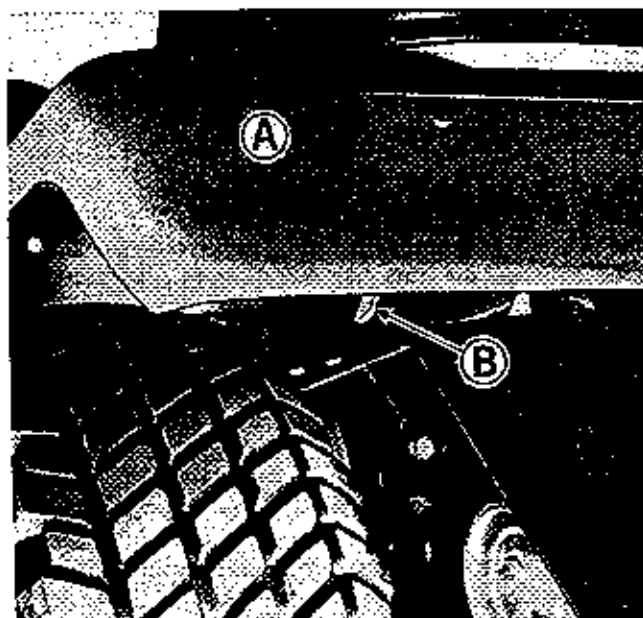
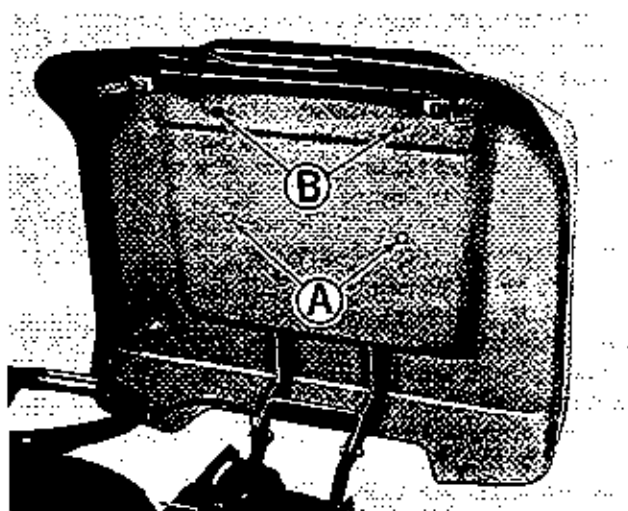
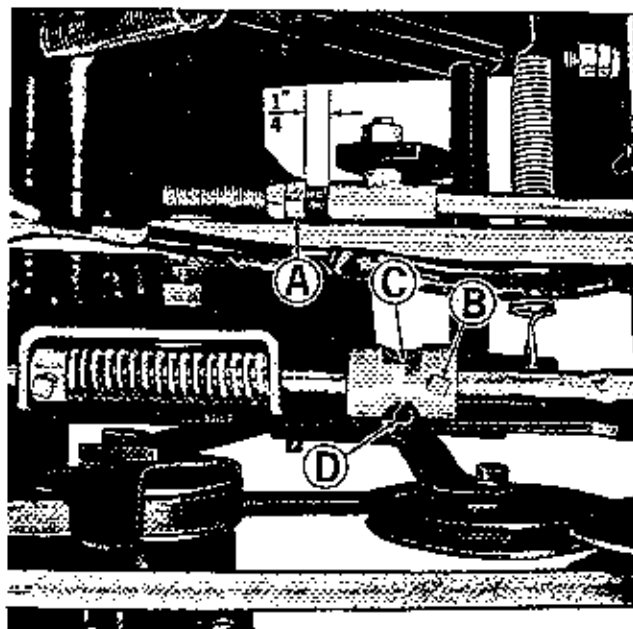
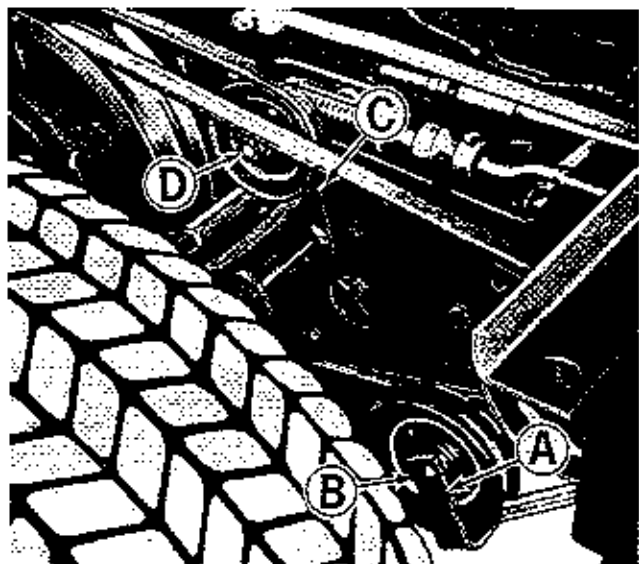

Figure 7. Seat deck release at front of seat deck.
Figure 8. Seat deck raised.
Figure 9. Clutch free travel and shuttle drive adjustment.
Figure 12. Belt stop adjustments located under seat deck.
See figure 7. The tractor seat deck (A) is hinged at the back. To raise the seat deck, reach under it from each side and pull the two locking levers (B) to the outside. As you hold the locks out raise the seat deck as shown in figure 8. Raising the seat deck in this manner will expose many of the transmission adjustment and maintenance areas.
See figure 8. The tractor seat is properly adjusted when the operator can comfortably operate the clutch and brake pedal while sitting back in the seat. The seat can be adjusted forward or back in any of four positions. If adjustment is required, proceed as follows:
1. See figure 8. Position the seat deck as shown by following the instructions under Raising the Seat Deck on page 9.
2. Remove the two cap screws and lock washers at (A).
3. Remove the two nuts and lock washers at (B).
4. If the seat is to be positioned in either of the two forward sets of mounting holes the two rubber spacers are placed over the studs at (B) and used between the seat and seat deck. If the seat is to be positioned in either of the two
See figure 9. The clutch free travel is correct when there is  $1/4"$  between the nuts (A) and the rod guide when the clutch brake pedal is released and pulled rearward as far as it will go. If adjustment is required, proceed as follows:
1. Raise the seat deck as shown in figure 8, by following the instructions under Raising the Seat Deck on page 9.
2. Using two wrenches hold the forward nut at (A) stationary with one wrench while turning the rearward nut counter-clockwise slightly with the other to separate them.
4. Turn the forward nut at (A) as necessary so that the distance between it and the rod guide is  $1/4"$  as shown in figure 9.
5. Using two wrenches hold the forward nut at (A) stationary while turning the rear one clockwise to tighten the two nuts together securely.
6. See figure 12. Check belt stop (A) and adjust it if necessary so it does not rub the drive belt when the clutch brake pedal is released. When the clutch brake pedal is depressed, belt stop (A) should pick up the drive belt to aid in disengaging it. If adjustment is required, loosen nut (B) slightly. Be sure to tighten nut (B) securely after the adjustment is completed.
3. See figure 9. Loosen set screw (B). Slide brake detent (C) forward or back as necessary to center it on brake pin (D). Tighten set screw (B) securely.
10. See figure 12. With the shuttle drive control lever locked in the forward drive position, belt stop (C) should be positioned so there is 1/16" to 1/8" clearance between each leg of it and the clutch belt. If adjustment is necessary, loosen nut (D) slightly. Tighten nut (D) securely after the adjustment is completed.